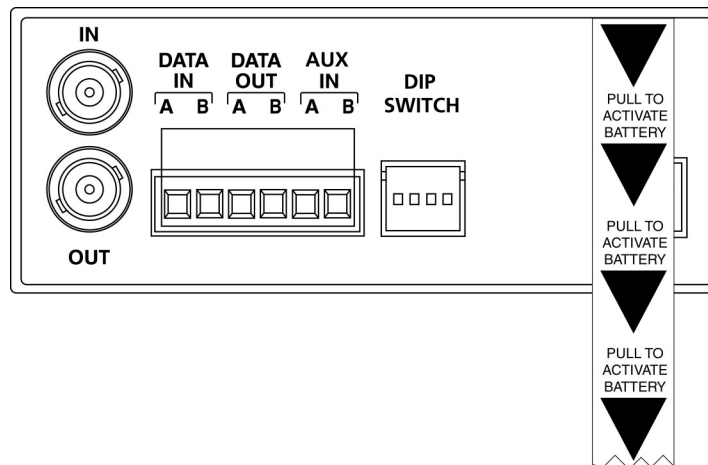

Figure 1. KTS-253 battery insulation strip
- 1) Locate the clear plastic battery insulation strip on the back of the unit (see Figures 1 and 2).